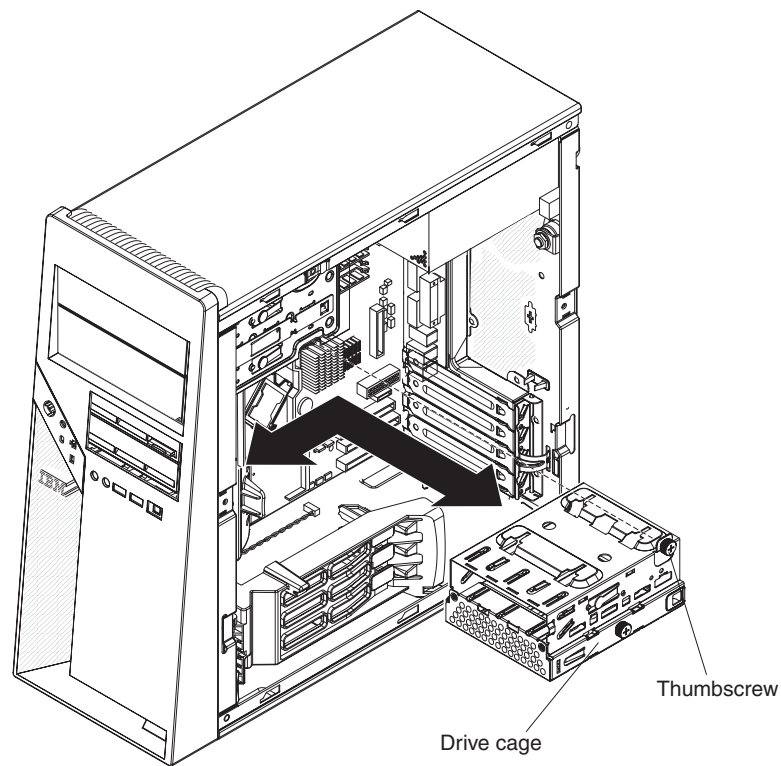

Figure 23. Removing the drive cage
5. For easier access to the memory modules on the system board, it might be easier to remove the drive cage from the computer (see Figure 23):